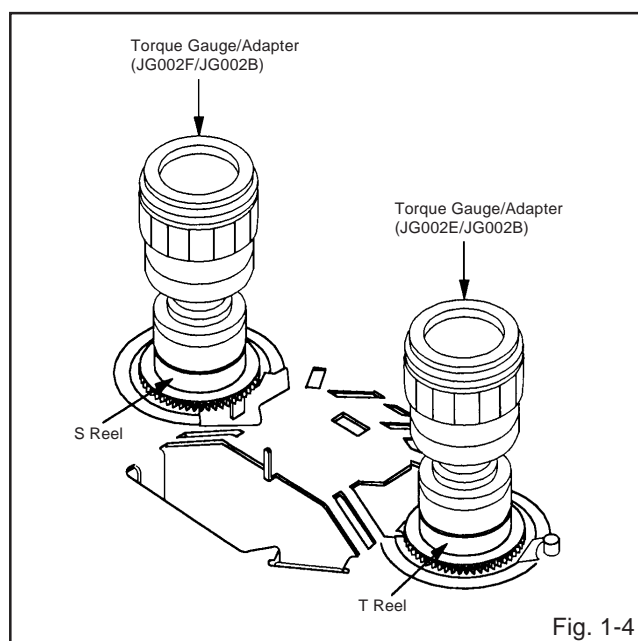

Fig. 1-4
2. Install the Torque Gauge (**JG002F**) and Adapter (**JG002B**) on the S Reel. Set to the Rewind mode. (Refer to Fig.1-4)
(S Reel Brake) (Refer to Fig. 1-4)
(T Reel Brake) (Refer to Fig. 1-4)